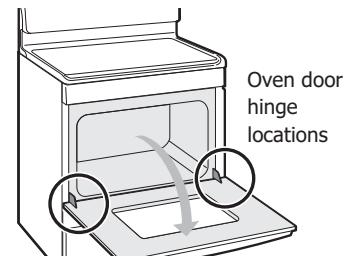

Figure 35: Door hinge location
3. Fully open the oven door, horizontal with floor (Figure 35).